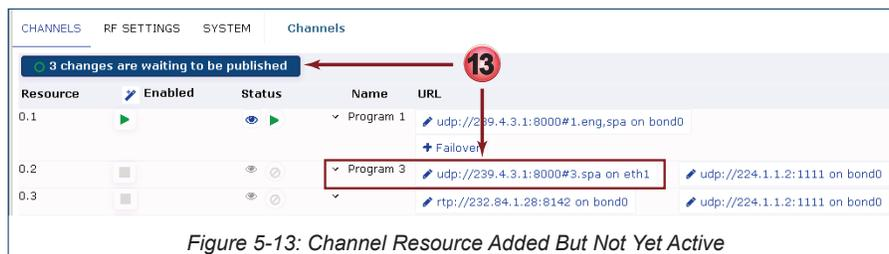

Figure 5-13: Channel Resource Added But Not Yet Active
13. The new stream URL values added to the resource are not yet live, Figure 5-13, and the publish button announces that '**3 Changes are waiting to be published**'. The new stream or changes to the stream (could be one or more) are waiting to be published (taken live).